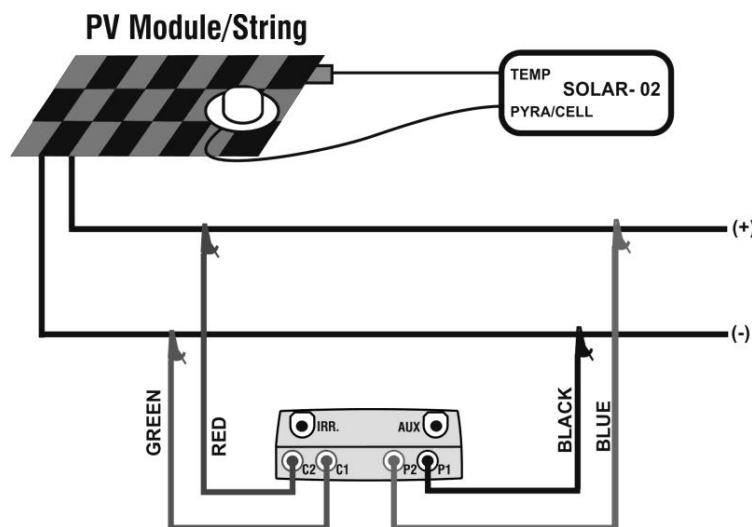

Fig. 9: Connection of units to the PV module/string
21. Connect the meter to the module/string under test as shown in Fig.9. In particular, connect the negative output pole of module/string to P1, C2 input terminals and the positive output pole of module/string to P2, C1 input terminals. In **Auto** activation mode is recommended the use of KITKELVIN optional accessory